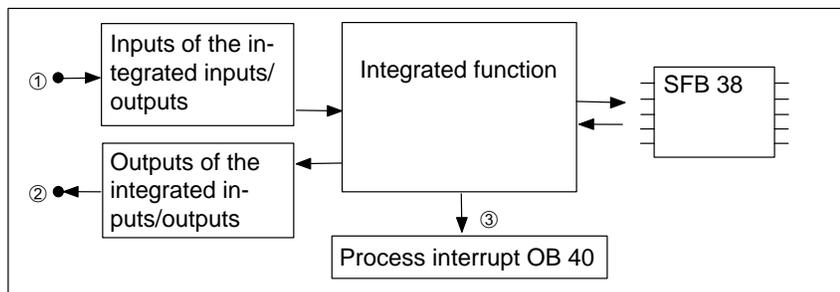

Figure 5-10 Response Paths
**Response Paths** Figure 5-10 illustrates the various response paths.